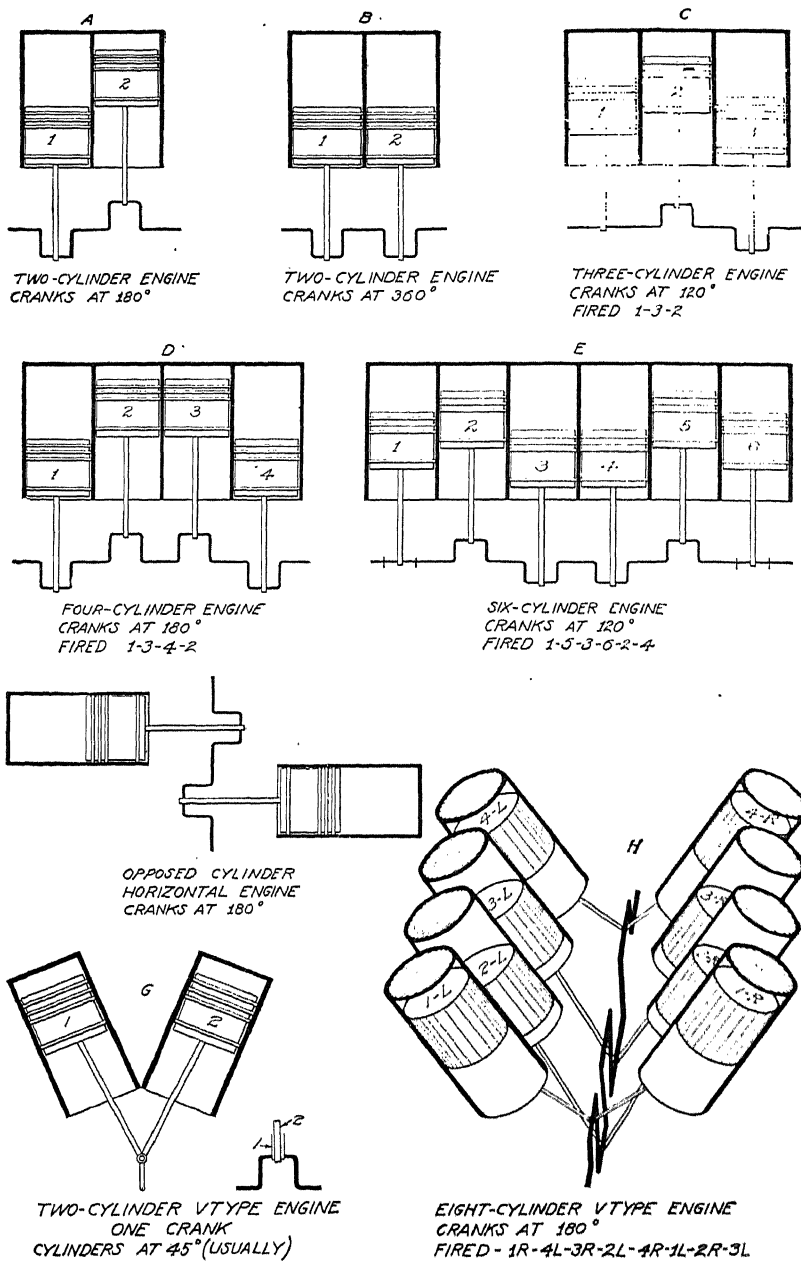

Fig. 14. Crank and Firing Arrangements for Multicylinder Four-Cycle Engines
By referring to Fig. 14 it will be found that the cranks are laid out in degrees in regard to their relation with each other. The division of the circle in degrees is used here. A crankshaft layout for a four-cylinder engine is shown at *D* and the cranks are set at 180 degrees. It will be noticed that cranks 1 and 4 are directly opposite cranks 2 and 3 and therefore are on opposite sides of the circle, or 180 degrees apart. At *E* the cranks are set at 120 degrees and are so arranged that they are one-third of the total circle distance apart. The diagram shows a six-cylinder shaft and cranks 1 and 6 move together, 2 and 5 together, and 3 and 4. A four-cylinder engine shaft can be used in an eight-cylinder engine and a six-cylinder shaft can be used in a twelve-cylinder engine. There is a definite distance that the crankshaft travels between explosions and consequently there are a certain number of power strokes given for every revolution of the crankshaft.
With the cranks set at  $360^\circ$ , *B*, Fig. 14, we get a power stroke at each revolution. This arrangement, however, requires careful balancing to counteract the vibration which results from all parts moving in the same direction at the same time.
**Four-Cylinder Engine.** In the four-cylinder engine of the four-cycle type, we have two power strokes for each revolution of the crankshaft or flywheel. In order to secure smooth working, these power strokes should occur exactly one-half revolution apart. From *D*, Fig. 14, it will be seen that the four-cylinder crankshaft has two pairs of cranks just about one-half revolution apart. Pistons 1 and 4 move up, while pistons 2 and 3 move down, or *vice versa*.
**Six-Cylinder Engine.** This is one of the most popular engines ever designed. It appeals to the motor-car user in that it offers a fairly even flow of power. It appeals to the mechanic in that it is not so complicated. The cost of maintenance is but slightly more than that of a four. The crankshaft, as will be noted at *E*, Fig. 14, is so arranged as to have two cranks or throws positioned at each of the 120-degree points about the circle. The six is in reality two threes, end to end, just as the straight eight is two fours, end to end. There are a number of firing orders possible for the six. One of the most popular is indicated in Fig. 14. The reader understands that the firing order is determined by the designing engineers and may not be changed by the service man. The service man is interested only in knowing the theory of design so that he may determine the firing order provided by the manufacturer.